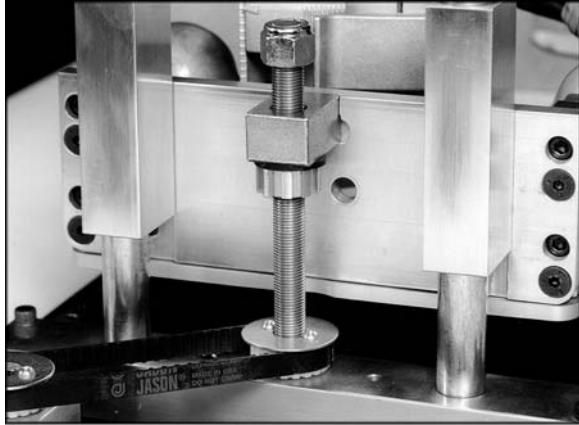

Figure 19
1. Turn your XACTA LIFT upside down on a table (Fig. 19).